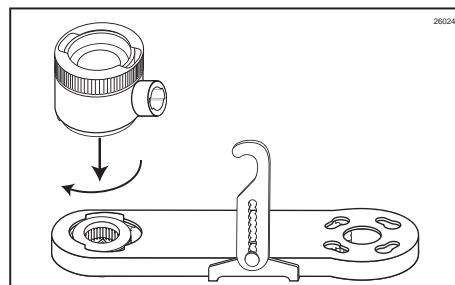

Figure 14
2. Install the Injector Head onto the Drive Assembly Gear Box and rotate off-center to secure. (See Figure 14.)